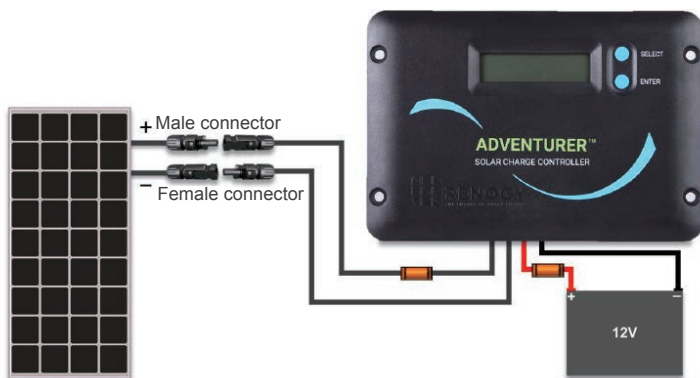

Figure 6.4 Completed 12V off-grid system
Please refer to Figure 6.4 when completing the following connections:
1. First, mate the “Female” solar connector from the solar panel that has the **negative (-)** label with the “Male” solar connector of your adapter kit as shown in **Figure 6.4**. Then connect the bare stranded portion of the cable to the **negative (-)** solar input terminal on the charge controller.
2. Next, mate the “Male” solar connector from the panel that has the **positive (+)** label with the “Female” solar connector of your adapter kit as shown in **Figure 6.4**.
Figure 6.4 shows the complete wiring of a typical off-grid system. It includes fuses for safety and protection. This configuration shows only one panel and one battery connected to the controller. In **Sections 8 and 9**, more panel and battery configurations (respectively) will be described. Instructions will follow.